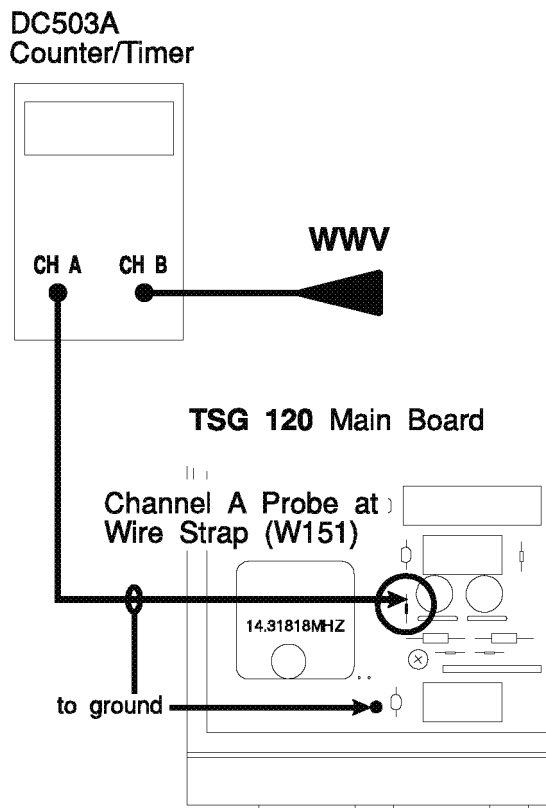

Figure 4-3: Oscillator frequency test setup
- a. Connect the equipment as shown in Figure 4-3.